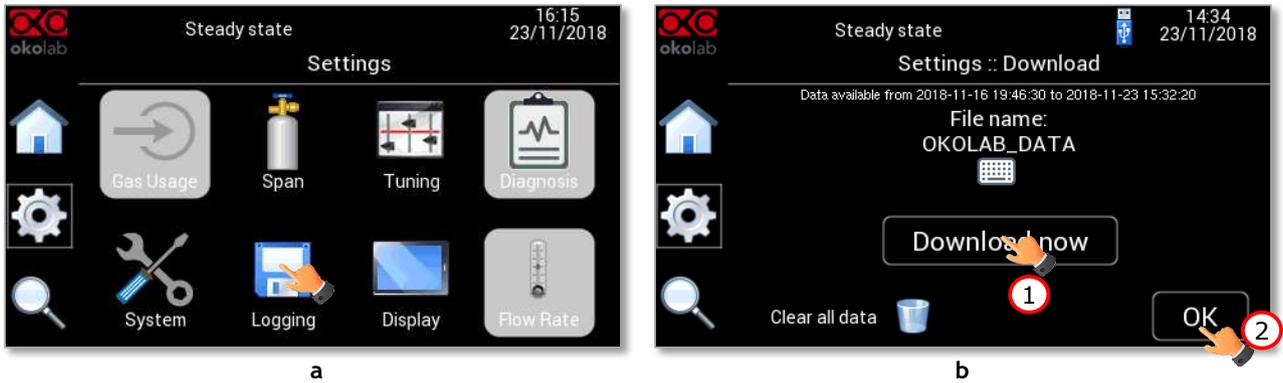

Figure 97. How to download data (a – b).
2. Press the *Logging* icon  (see Figure 97 a) to access to the *Download* page (see Figure 97 b).
- Press the *Download Now* button (1 in Figure 97 b) to download data to the USB key and then press *OK* (2 in Figure 97 b) and wait until the download is completed.